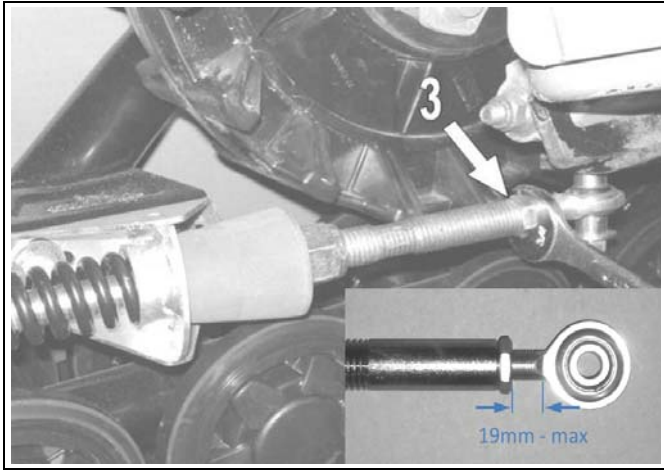

Figure 15
NOTE: In some rare cases where the adjustment of the nut (1) compressing the spring is near the end of the threaded rod, extend the rod by unlocking the jam nut (item 3 on Figure 15) and unscrew the rod to obtain 19 mm max. of visible threads. Re-tighten the jam nut.